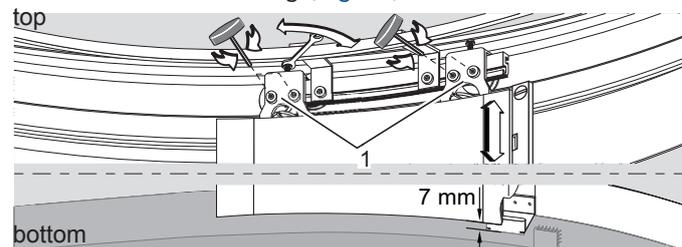

Fig. 57 Adjusting the carriages
- Always adjust the carriages to the specified spacing height of 7 mm (Fig. 57).
6. Adjust carriages to spacing height of 7 mm (Fig. 57/1), as shown in Fig. 57.